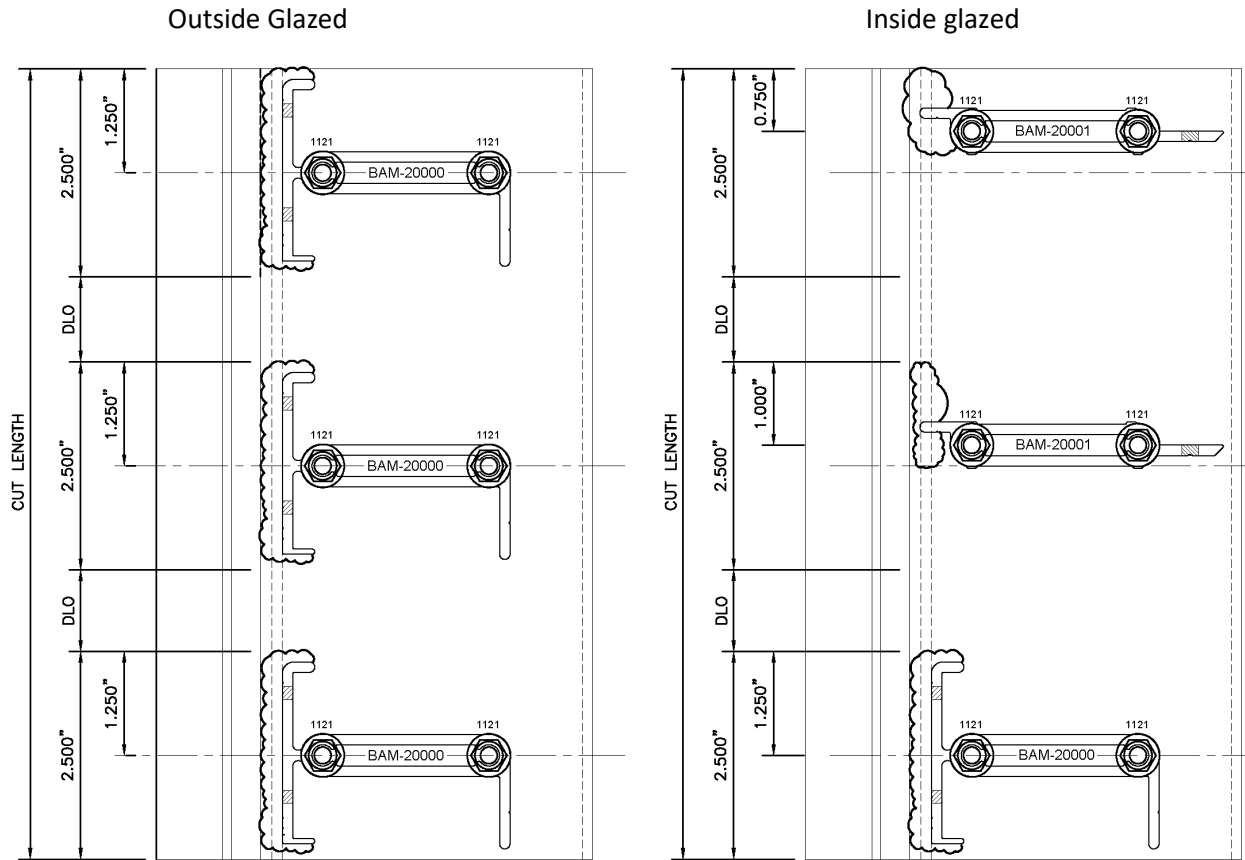

FIGURE D.1
- Butter shear blocks with sealant. (FIGURES D.1 & E.1)